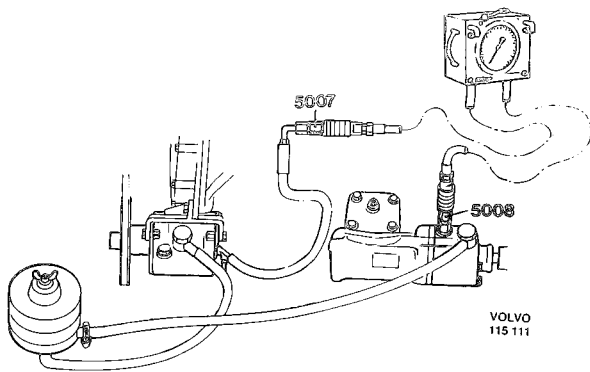

Fig. 6-60. Pressure gauge connected
1. Connect the test instrument 2864 to the delivery line at the steering housing, see Fig. 6-60. The inlet hose of the instrument is connected to the nipple with tool 5007 (Fig. 6-60) and the outlet hose to the steering housing with tool 5008 (right-hand steered vehicle, 2990). Check to make sure that the operating lever of the instrument is in the open position (to the left).